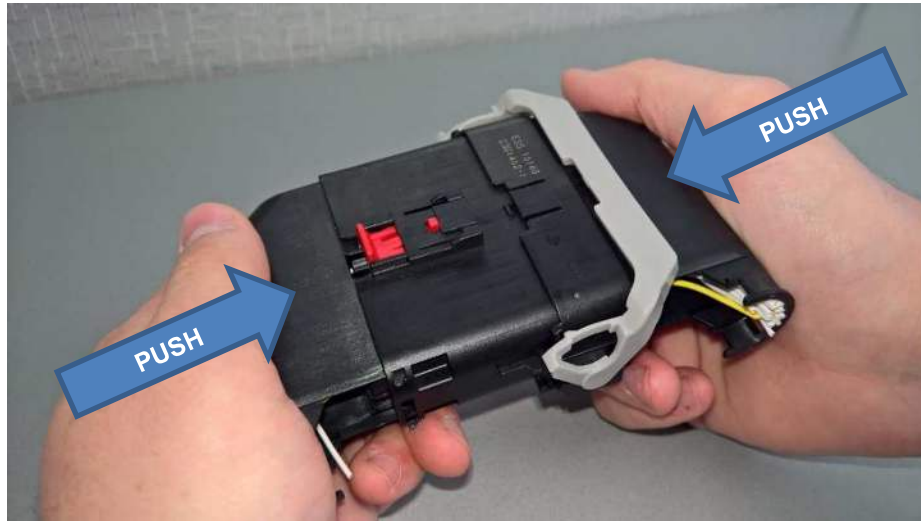

Figure 8
2. Align connectors as shown in Figure 8, and push connector halves together.